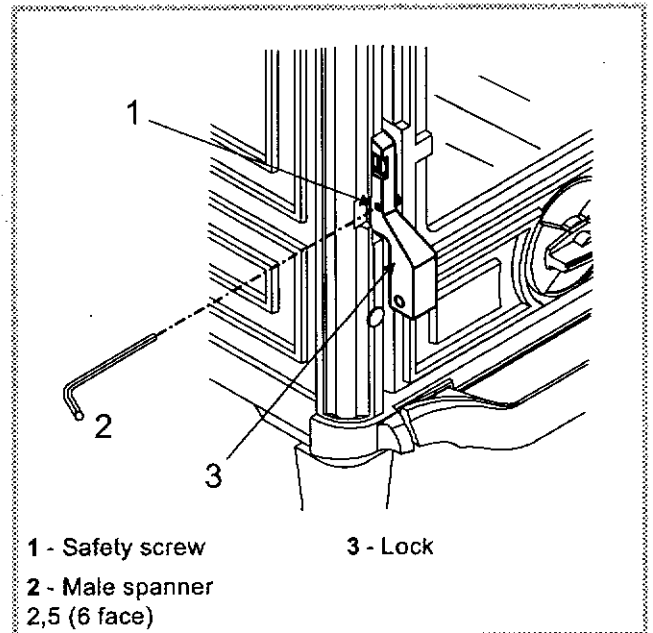

Figure 9 - Blockage of the door
- Check that the door is blocked in closed position (fig. 9).
- Open the door by releasing the door latch (fig. 9).
- Close the door and block the latch with the cam pin (fig. 9). The door has to be blocked into position before using the appliance.